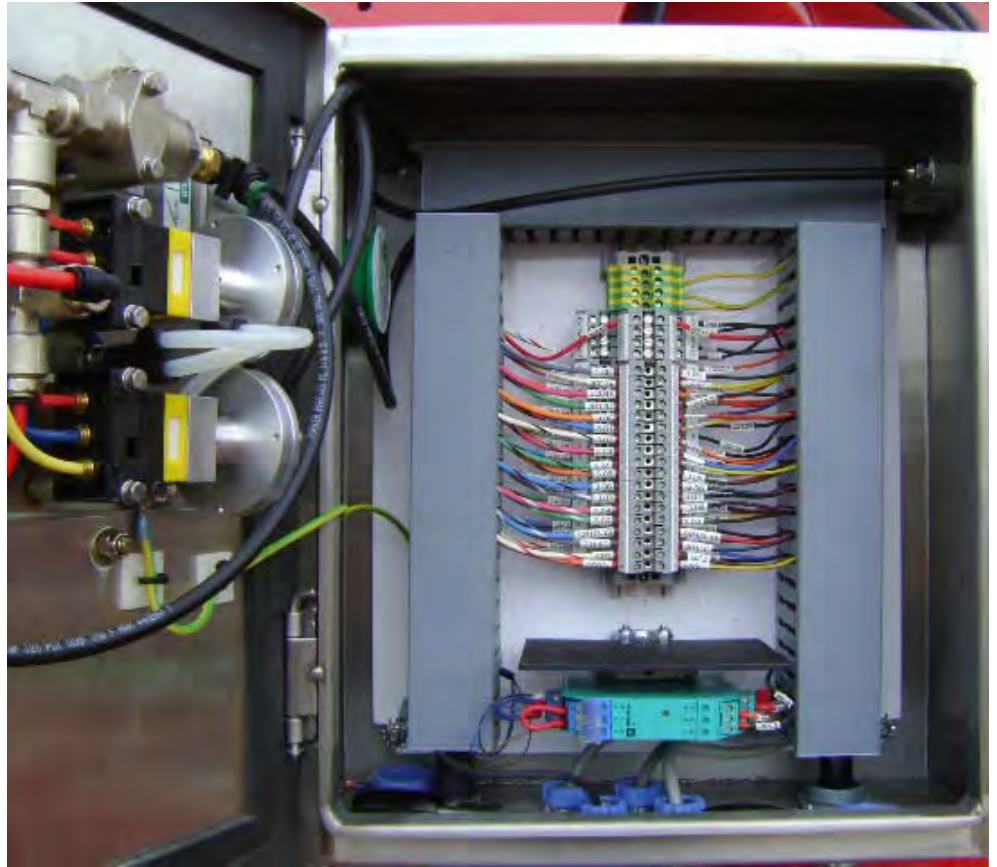

Figure 21
21. Reinstall the wire cover and close the arm junction box (Figure 21).